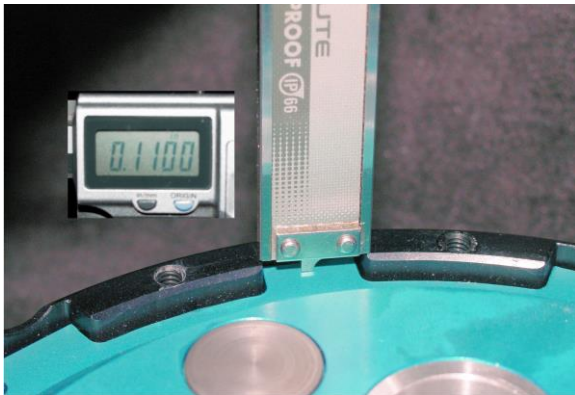
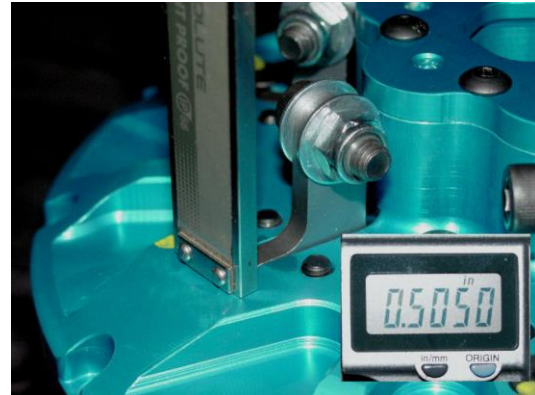

Fig. 1
Fig. 2
- F. Insert the pressure plate on top of the last fiber. The height from the top of the tang, on the pressure plate to the top of the basket should be approximately 0.110" (See Fig. 1). This will give you an air gap below your arms to the buttons of 0.110".
- G. Place the hat assembly on the basket and tighten the twelve (12) allen head cap screws to secure it.
- H. The air gap between the arms and the pressure plate buttons can be measured using the thin bottom section of a caliper. Stick the caliper rod into the slot opening just behind the arm (See Fig. 2) until it hits the top of the button on the pressure plate. Take a height reading to the top of the Gen II hat, this reading should be between 0.490"-0.510". This gives an air gap of 0.100"-0.120". It is better to start with an air gap of 0.100" to compensate for clutch wear. This technique can be used to maintain the air gap, after repeated runs, without removing any part of the clutch.